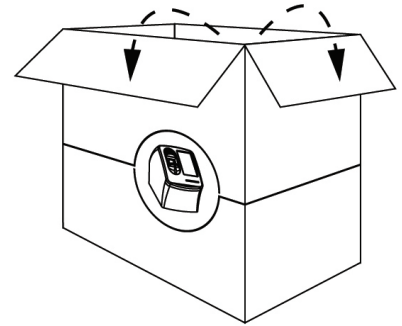

Figure 1
1. Position the box upright and open the top flaps (Figure 1).